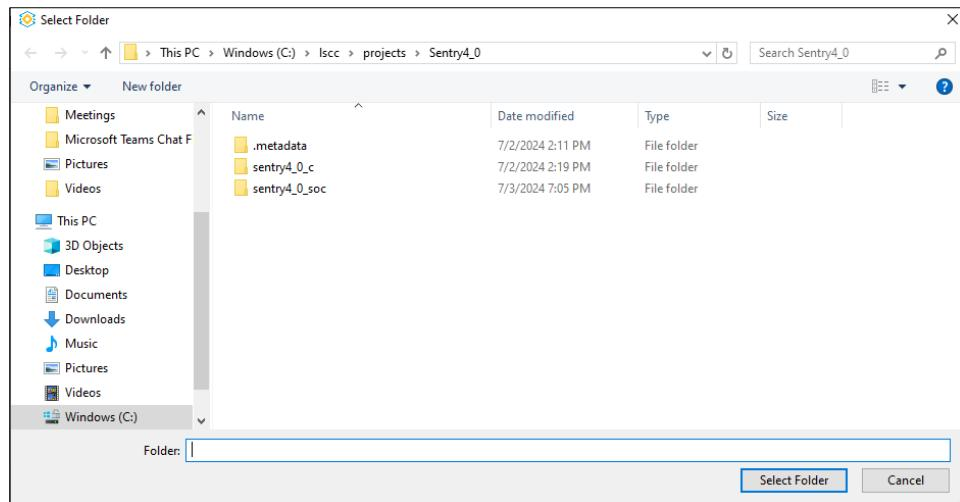

Figure 5.5. Workspace with the SoC Project to Import
5. Click **Browse** next to **Select Root Directory** and navigate to the directory which contains the SoC project to be imported. Click **Select Folder** (Figure 5.5).